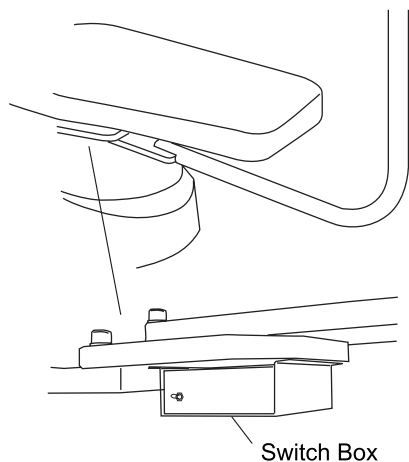
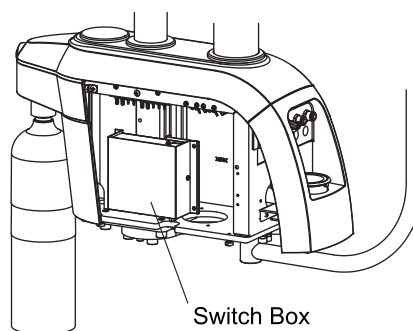

Fig.13. X-Calibur Swing Arm Mount
Fig.16. Evogue Cuspidor Mount
- (7) Attach the control box as shown in Fig.13 ~ Fig.16.